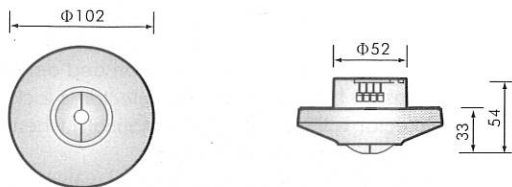

FIG.1-A
- OS-384i-DALI-230 : $\Phi 102 \times 54\text{mm}$ (See FIG.1-A)